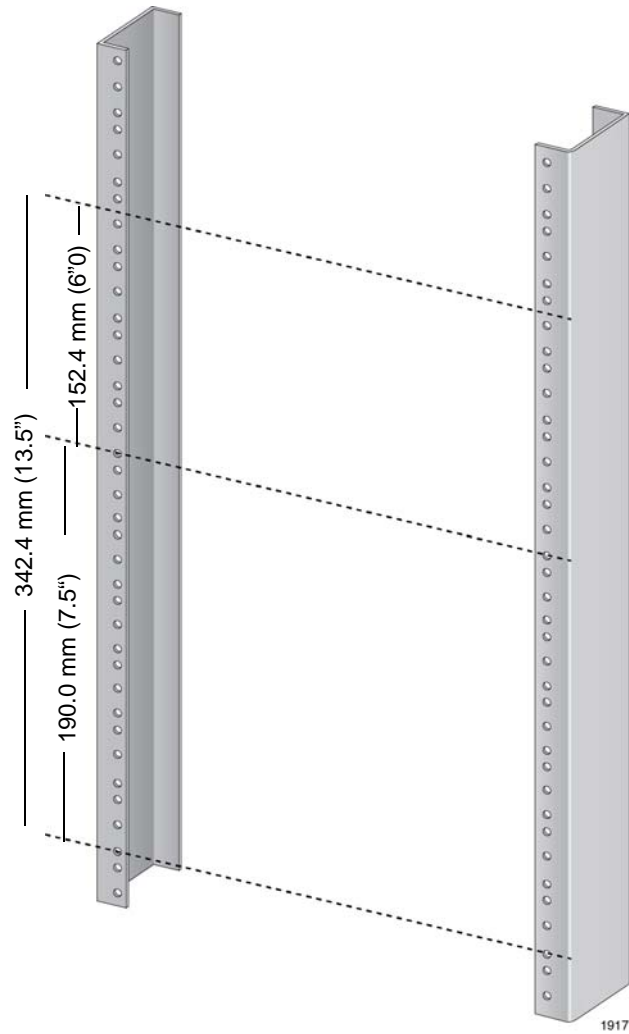

Figure 40. Reserving Vertical Rack Space
1. Reserve 190.0 mm (7.5") of vertical rack space for the installation of the AT-SBx3106 Chassis, as shown in Figure 40 on page 102.